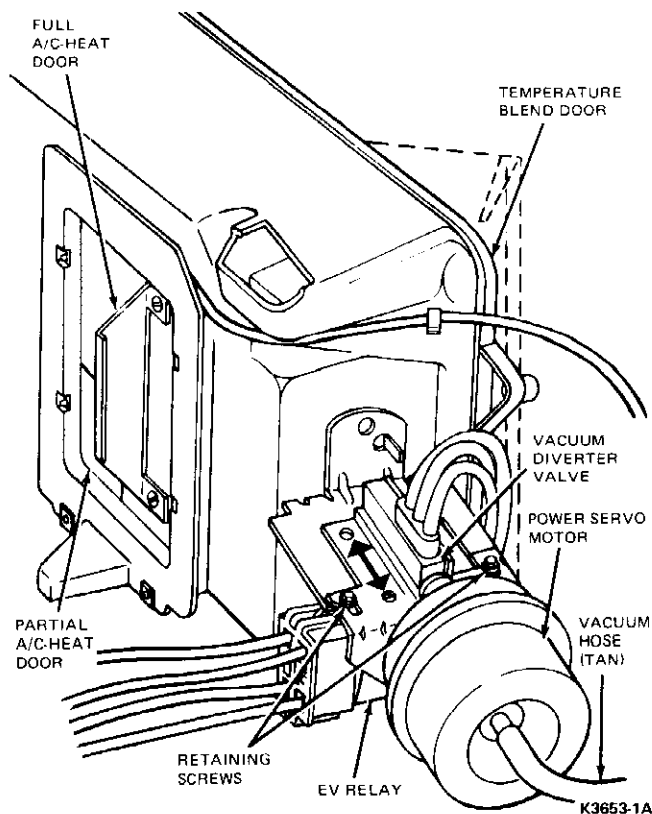

FIG. 18 1978 Ford, Mercury and Lincoln Continental ATC Servo Assembly Adjustment
2. Loosen the two (2) retaining screws (Fig. 18).